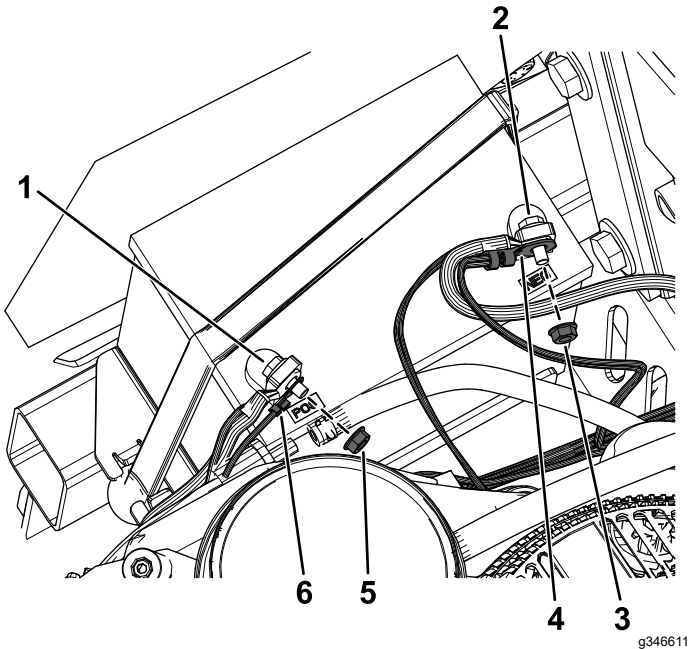

Figure 18
5. Remove the nut from the positive battery terminal and install the kit wire harness positive terminal ring onto the bolt (Figure 18).
6. Secure the positive terminal ring using the previously removed nut (Figure 18).
8. Remove the nut from the negative battery terminal and install the kit wire harness negative terminal ring onto the bolt (Figure 18).
9. Secure the negative terminal ring using the previously removed nut (Figure 18).